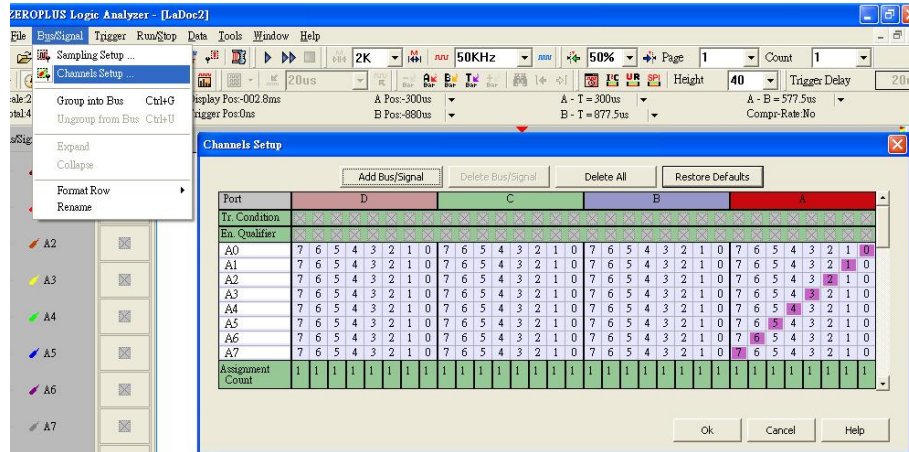

Fig 4-21 – Channel setup
Click Channels setup on Bus/Signal of menu bar, or click icon. The dialogue window shown in Fig 4-21 will appear.
3. Restore Defaults, click Restore Defaults to restore the dialogue of Channels Setup as shown in Fig 4-21.